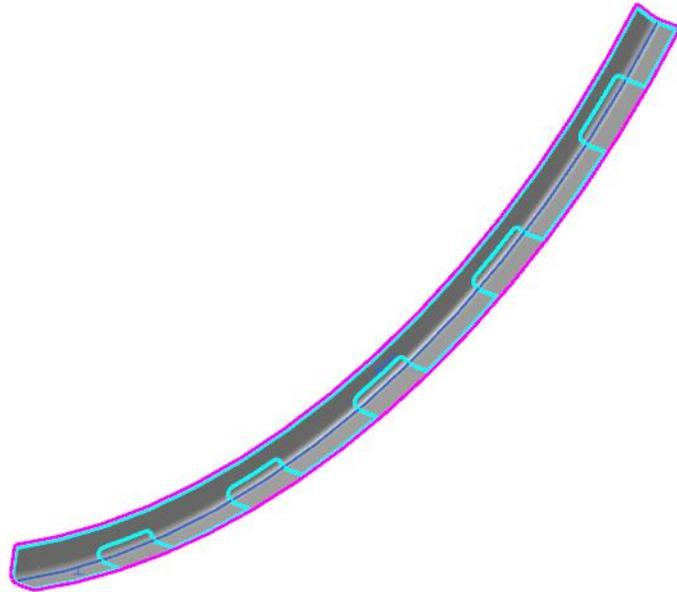

Figure 3–59
1. Open **INTRO_PLY_D.prt**. The model displays as shown in Figure 3–59.